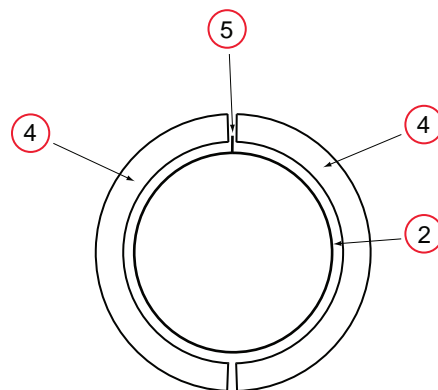

Figure 9-15. Bellows Clamp Alignment (Cross-Section View)
6. Re-install the upper bellows clamp. You must align mating surface of the clamp half-rings with the bellows seam—see Figure 9-15. Tighten the screw to secure the bellows.
8. Place new gaskets in the lower bellows clamp—extra gaskets are shipped in the accessory kit. Then install the clamp over the bottom of the bellows, on the bearing ring just above the tool flange. Align the mating surfaces of the clamp half-rings with the bellows seam—see Figure 9-15. Tighten the screw to secure the clamp.